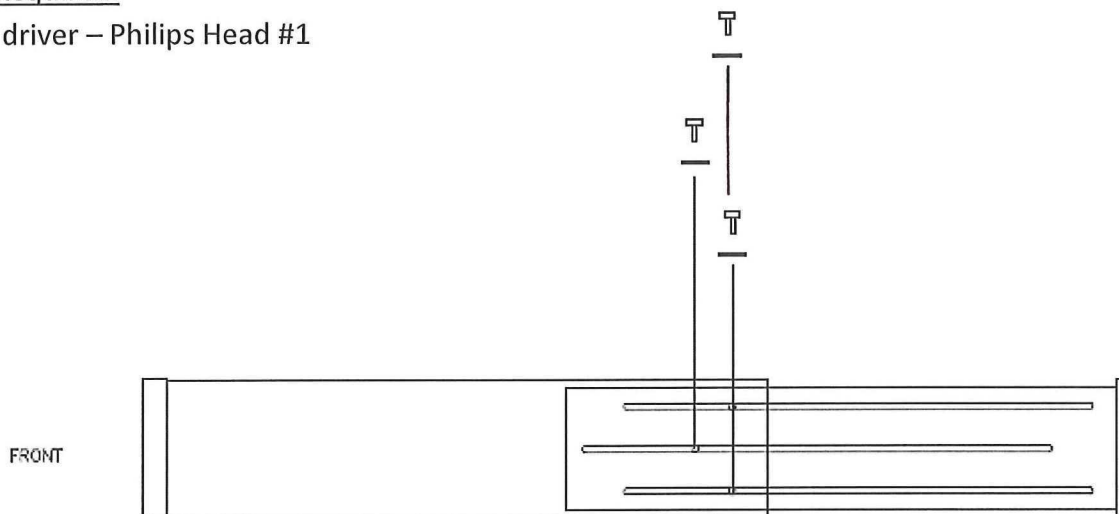

Figure 1
- 2.) Orient each Rear Rack Ear so that its slots line up with the three screw holes in the UPS. **NOTE**-Please ensure that the flange on the rear rack ear is pointing back and away from the UPS. (See Fig.1)